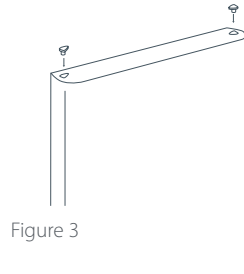

Figure 3
- Move the hinge bearing on the door to the opposite side of the top of the door (refer Figure 3).